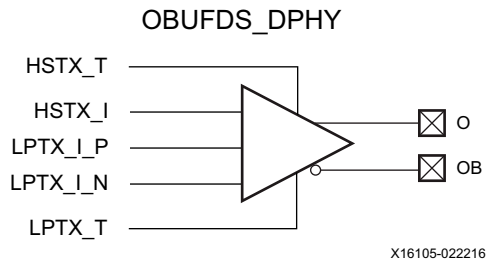

Figure 1-45: Differential Output Buffer Primitive (OBUFDS_DPHY)
The differential output buffer primitive (OBUFDS_DPHY) is only supported in the HP I/O banks in the Virtex UltraScale+, Kintex UltraScale+, and Zynq UltraScale+ devices (Figure 1-45). This UltraScale architecture specific primitive is for MIPI D-PHY transmitter implementation. The HSTX_T port is used to 3-state the MIPI D-PHY high-speed (HS) transmitter. The LPTX_T port is used to 3-state the low-power (LP) transmitter. The HSTX_I and LPTX_I(P/_N) inputs are from the interconnect logic to the HS and LP transmitters,